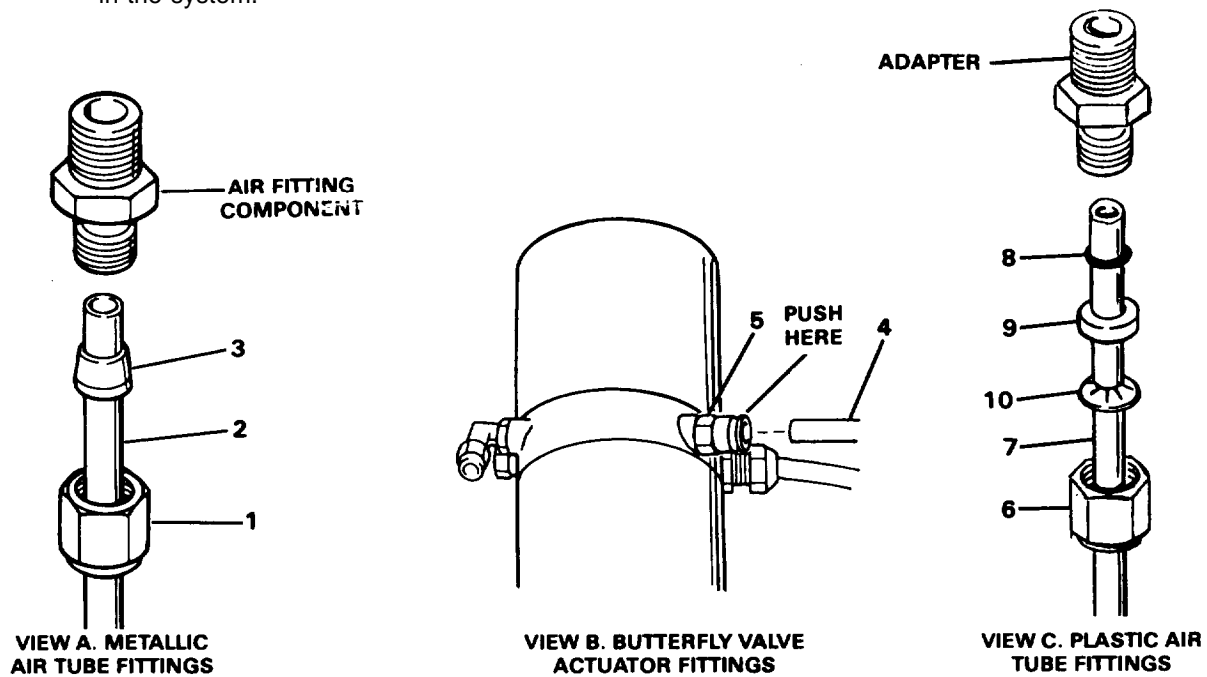

Figure 4-26. Low Pressure Air Tubing
- Butterfly Valve Actuators (Figure 4-26).
- (1) All tubing, valves and fittings at both air manifolds (para. 4-68).
- (2) All tubing and fittings at both air dryers (para. 4-67).
- (3) The regulator, flowmeter and fittings on the turbidity meter panel (para. 4-49 and 4-50).
- (4) Tubing and fittings all three solenoid valves (para. 4-51).
- (5) Air tubing connections and tubing on the media filter (para. 4-53).
- (6) Air tubing connections and tubing on the media filter air blanket level indicator (para. 4-52).
- (7) Tubing and fittings going to the safety valve (para. 4-58).
- (8) Tubing and fittings to butterfly valve actuators (Figure 4-26, View B).
a. Metallic air tube fittings (Figure 4-26, View A).
- (1) Loosen nuts (1).
- (2) Remove tubing (2) with assembled nut (1) and compression fitting (3) from air fitting component.
- (3) Remove compression fittings from tubing.
- (4) Remove tubing assembly (1, 2 and 3) by cutting ties which secure it to walls and/or ceiling (para. 4-10).
b. Butterfly valve actuator tube fittings (Figure 4-26, View B).
- (1) Push in on fitting (5) and pull out on tubing (4).
- (2) Cut any wire ties securing tubing (4) to walls or ceiling and remove tubing (para. 4-10).
c. Plastic air tube fitting (Figure 4-26, View C).
- (1) Loosen nuts (6).
- (2) Remove tubing (7) with assembled preformed packing (8), spacer (9) and grab ring (10). Disassemble components from adapter.
- (3) Remove tubing by cutting ties which secure it to walls and/or ceiling (para. 4-10).
If butterfly valve actuator fitting is leaking at the point marked "Push Here" in Figure 4-26, remove tubing from fitting and cutoff about 1/4 inch of the tubing. Remove any burrs on fitting. Reinsert the tubing in fitting making sure that it enters straight into the fitting without being strained to the side.
(1) Install nuts (1) and compression fittings (3) on tubing (2) with tapered end of toward fittings.
(3) Install new wire ties and secure tubing to wall and ceiling attachment points (para. 4-10).
(4) Tighten nuts (1).
(5) Perform inspection as described above in paragraph a.
If butterfly valve actuator fitting (4) is leaking at the point marked "Push Here" in Figure 4-26, remove tubing (4) from fitting and cut off about 1/4 inch of the tubing. Remove any burrs on fitting (5). Reinsert the tubing in fitting (4) making sure that it enters straight into the fitting (5) without being strained to the side.
(1) Install tubing (4).
(2) Install new wire ties and secure tubing to wall and ceiling attachment points (para. 4-10).
(3) Perform inspection as described above in paragraph a.